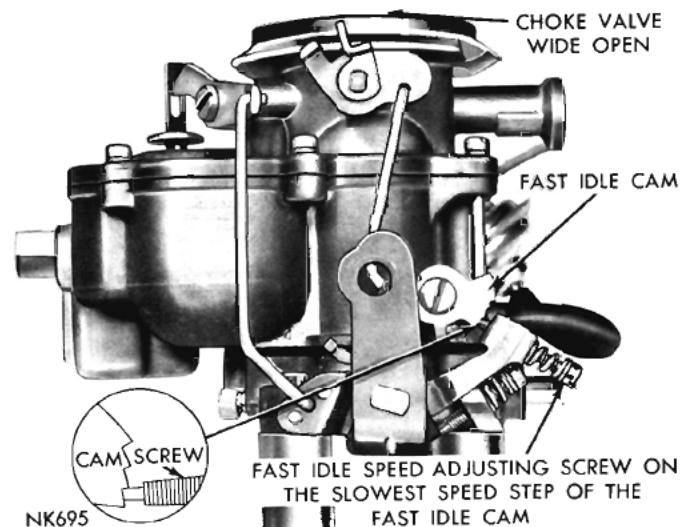

Fig. 18—Fast Idle Speed Adjustment (on the vehicle)
(2) Close the choke valve about 20 degrees then allow the throttle to close. Return the choke valve to the open position.
(3) The fast idle speed adjusting screw should be contacting the slowest speed step on the fast idle cam, as shown in (Fig. 18).
(4) With the engine warmed-up to the normal operating temperature, turn the fast idle speed adjusting screw in or out to secure 700 r.p.m. **Reposition the cam and throttle after every screw adjustment to apply normal throttle closing torque.**